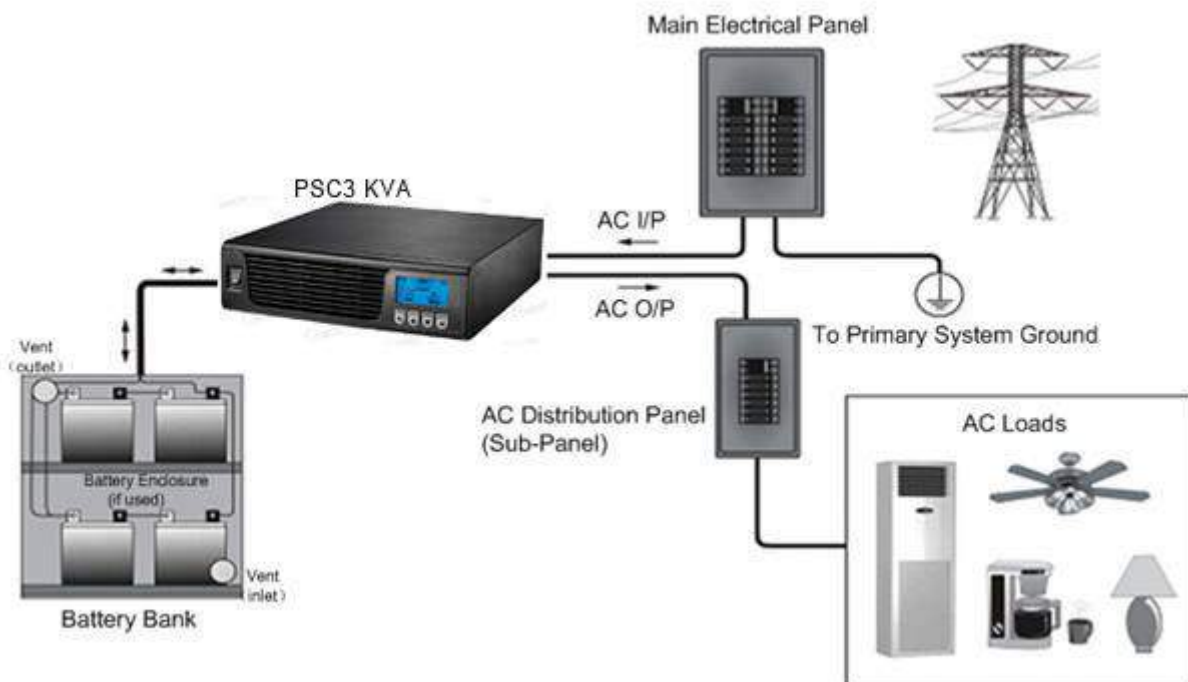

Figure 1 Utility Backup
- Utility Backup. see figure 1